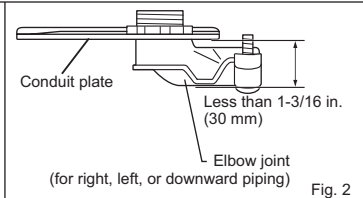

Fig. 2
- Attach conduit pipe (for rear piping) / elbow joint (for right, left, or downward piping) to conduit plate with lock nut. The thread of the installed conduit pipe / elbow joint appearing inside should be less than 3/8 in. (10 mm). (Fig. 1) Elbow joint should appear less than 1-3/16 in. (30 mm) outside. (Fig. 2)
- In case of bottom piping (Fig. 2)
- 3) Pull out the drain hose at the back left of the indoor unit. (Fig. 2)
- If the drain hose provided with the indoor unit is too short, connect it with a field-supplied drain hose (I). (Fig. 2)